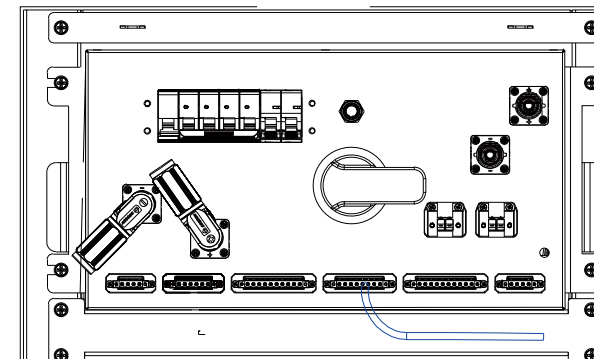

Figure 2.9
(6) The main control box communication CAN line is connected to the PCS communication CAN line. Plug in and lock the main control box CAN communication plug, and lock the PCS communication CAN port (Figure 2.9).